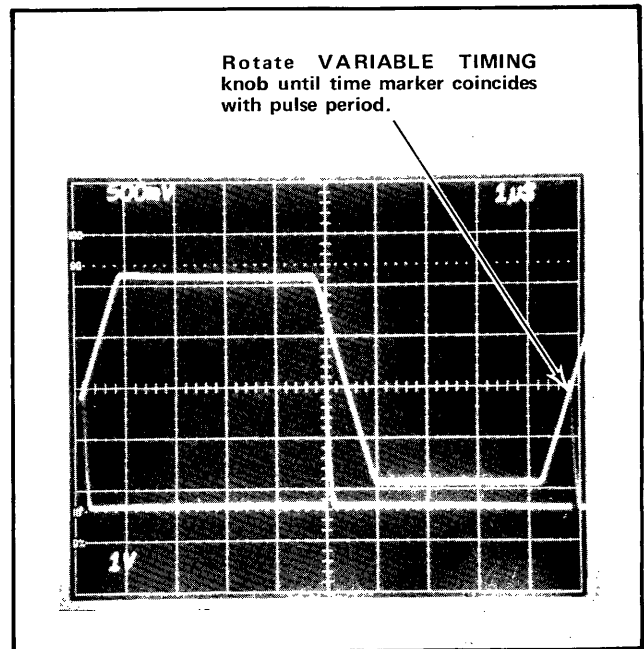

Fig. 1-7. Measuring Pulse Period.
10. To check the timing of pulse period, rotate the VARIABLE TIMING knob until time marker coincides with pulse period. See Fig. 1-7.